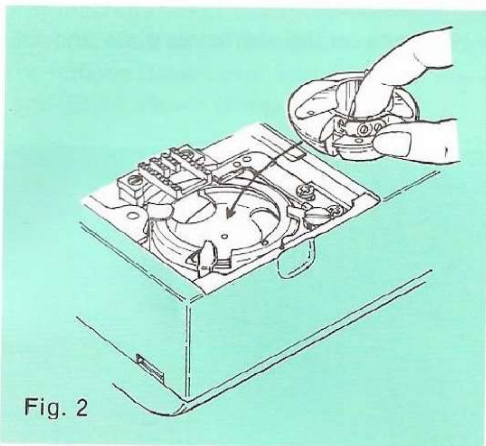

Fig. 2
5. Lift up on the front edge of bobbin case and pull bobbin case out. Fig. 2.